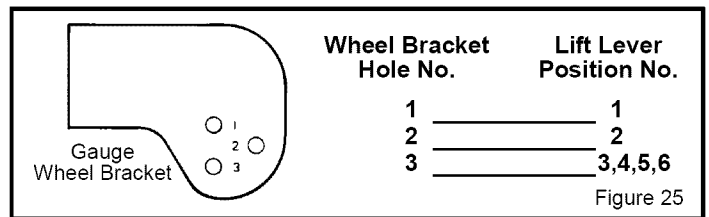

Figure 25
3. Look at each **gauge wheel bracket**. There are 3 holes in each bracket and a number next to each hole. The number for the height of cut position on the **lift lever** indicates the correct hole to use on each **gauge wheel bracket** (Figure 25).
4. Assemble the axle bolts to the **gauge wheel brackets** using the correct hole in the bracket as indicated (Figure 25).
**NOTE:** If the height of cut position is changed by the lift lever, you must move the gauge wheels to the correct hole (Figure 25) to keep a level height of cut.